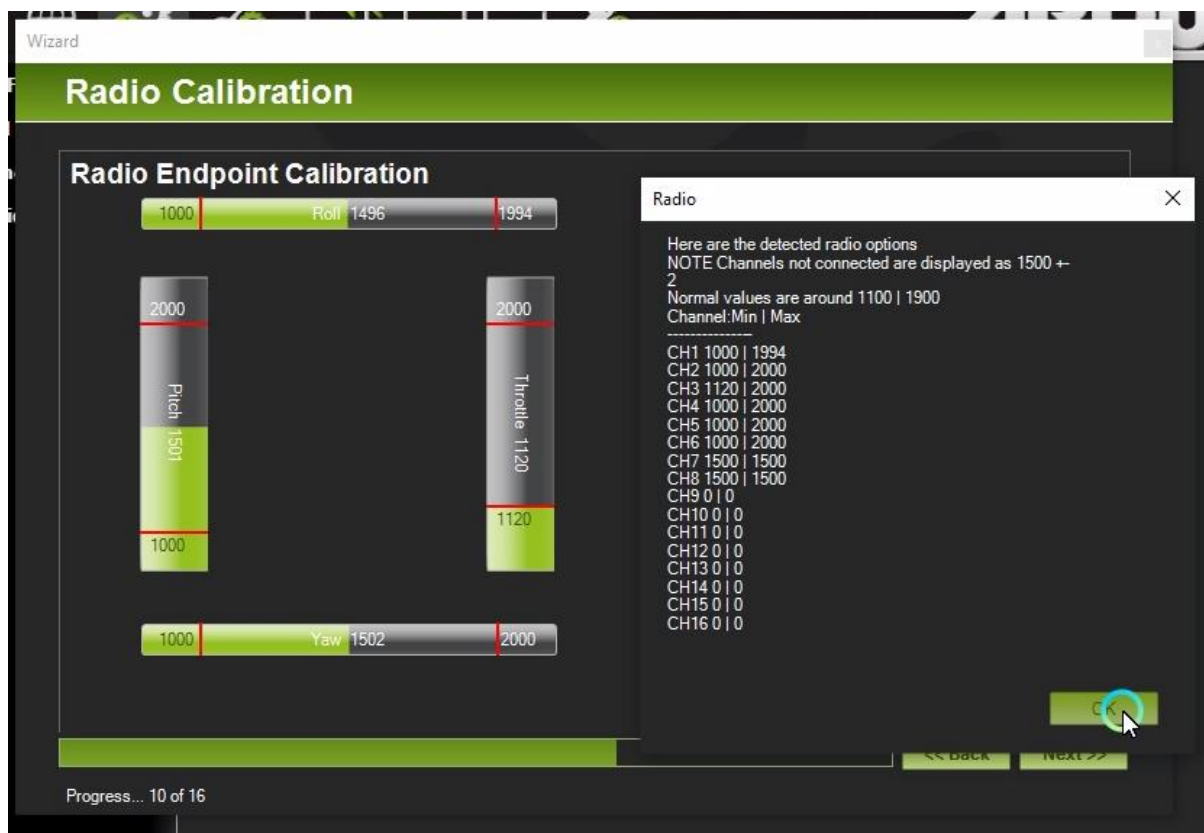

Fig.4.14
16. Now, you will see all the channel values. Press OK. Refer Fig.4.14.